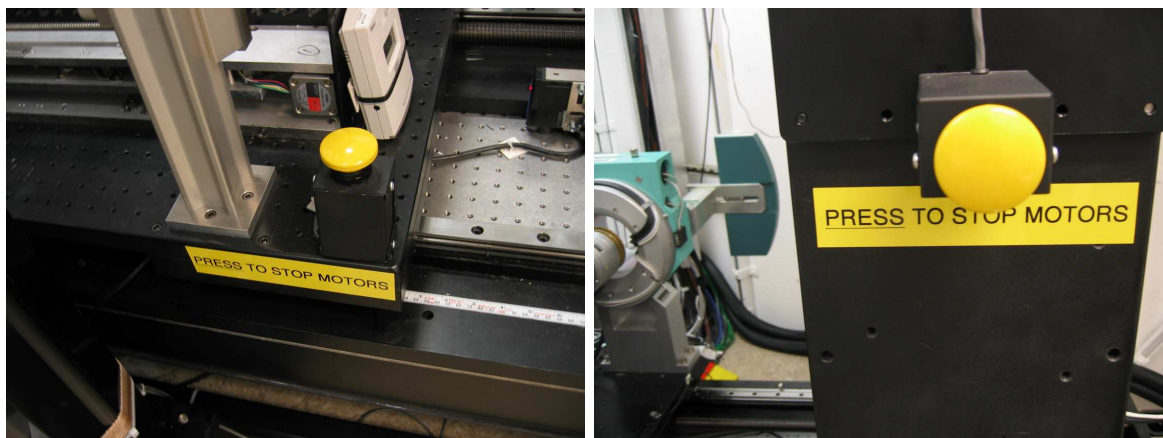

Figure 1: Emergency buttons
- Motor movements can be immediately stopped by pressing any of the large yellow emergency buttons (fig.1). The motor reset button (fig.2) must be pushed to reactivate the motors.